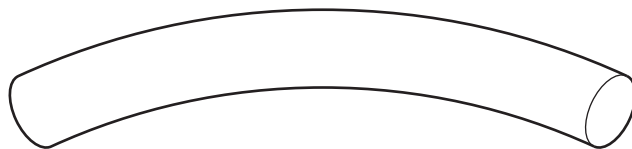

Fig. 4.3
- (d) A straight rod of the same material is bent as shown in Fig. 4.3.